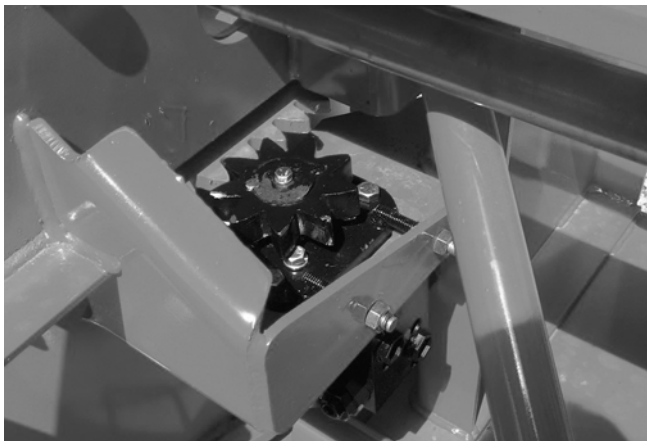

Figure 22
- 3) Bolt hydraulic motor in place pointing the oil outlets to the exterior and install sprocket (Fig. 22).